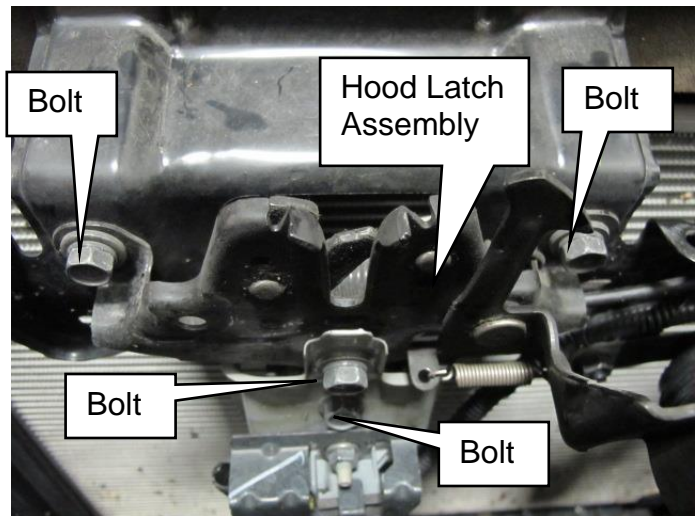

Figure 10
16. Remove the hood latch assembly from the radiator core support (Refer to Figure 10).
- Remove the (4) retaining bolts.